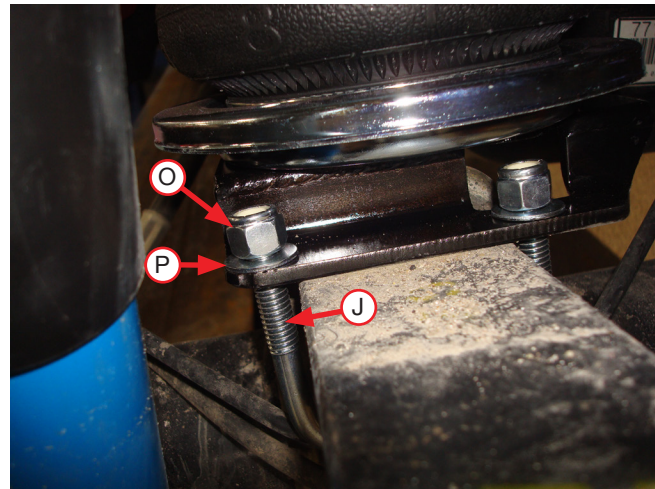

Fig. 12
6. Install the U-bolts (J) under the leaf spring and up through the lower bracket (Fig. 12). Cap with 3/8" flat washers (P) and nylon lock nuts (O). Leave loose at this time.
Some early models may have shorter leaf spring stacks and may require "trimming" the top of the U-bolt off, above the nylon lock nut on the rear, inside installation location. If the top of the U-bolt hits on the roll plate while tightening (Fig. 12), grind or hack saw off the excess above the nylon lock nut before completely tightening the nut.